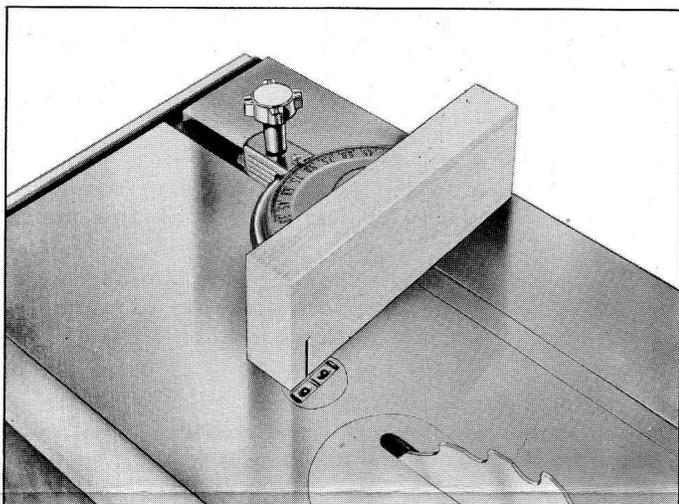

FIGURE 3
3. Withdraw from Blade until the saw cut and cut indicator shoes, No. 25, are approximately in line as shown in Fig. 3.